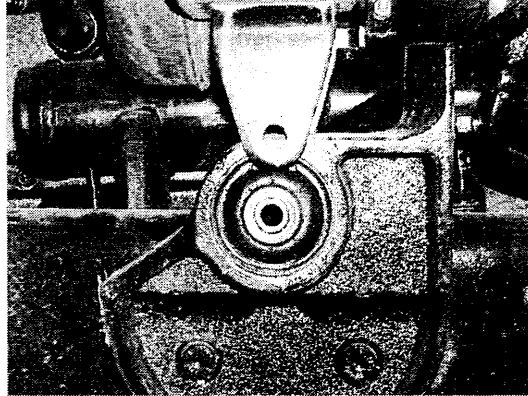

Figure 4 – Cab Raised Position
- b. Lift passenger side of cab, using a jack in the sub-sill area, approximately 2.5" (63.5mm) or until lower cab mount is in the approximate position as indicated in Figure 4.